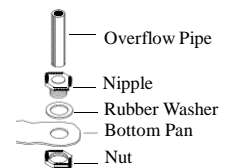

Fig. 6
- **Install overflow assembly.** Place drain nipple through the hole in the pan, with the rubber washer between the pan and the head of the drain nipple (Fig. 6). Screw on nut and draw up tight against bottom of pan. Insert the overflow pipe in the nipple to retain water. The overflow pipe may be removed to drain the pan when necessary. A garden hose may be screwed onto the drain nipple to drain water away from your unit.